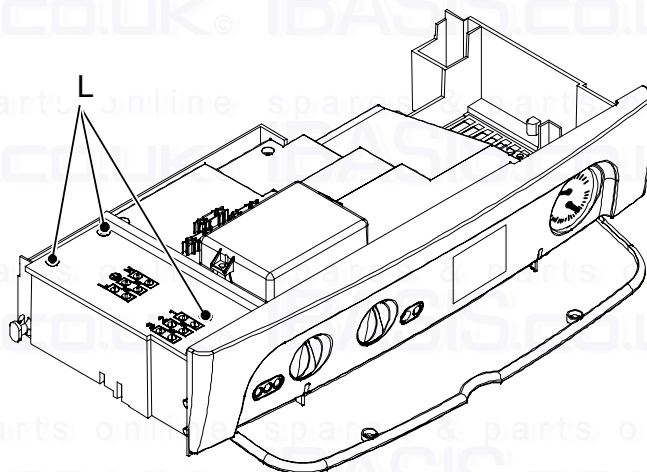

Fig. 6.12
- Loosen the screws L and remove the service panel (Fig. 6.12).